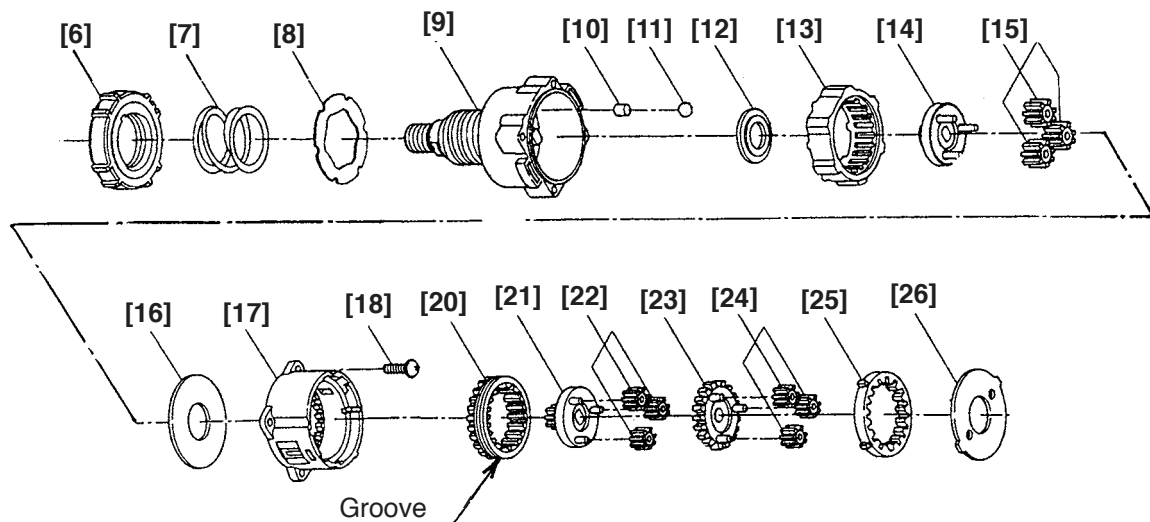

Fig. 8
Screw the Nut [6] in the Front Case [9] about one and a quarter turns. (See Fig. 8.)
(See Fig. 8.)
- (f) Install the Ring Gear [13] and Washer (B) [26] of Planet Gear (C) Set [15] into the assembly assembled in step (3) (e). (See Fig. 8.)